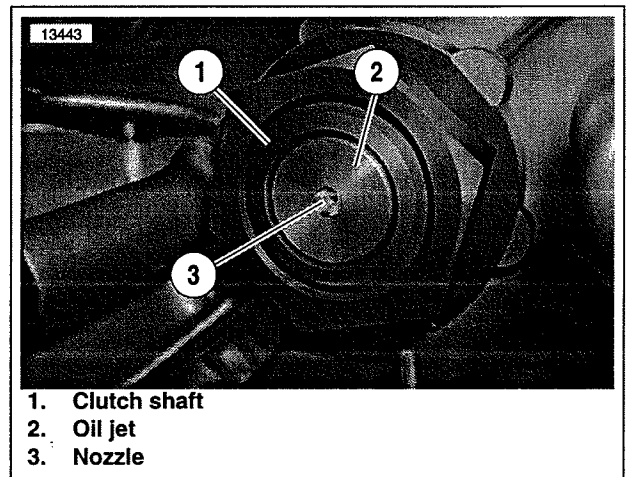
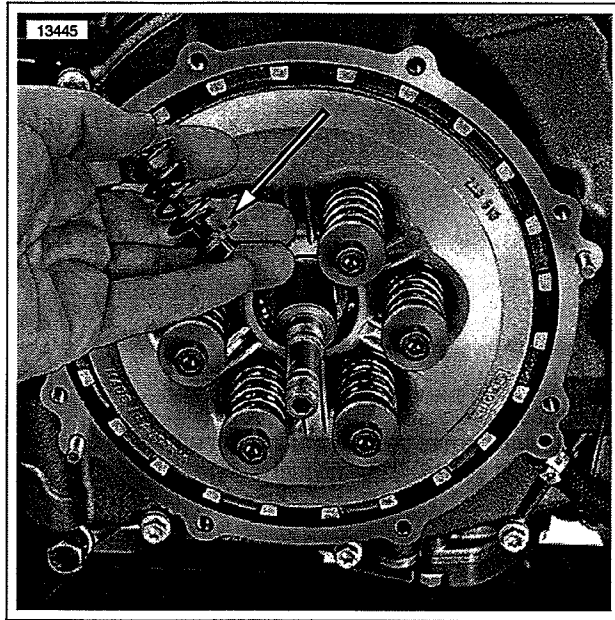

Figure 12. Installed Oil Jet
Figure 13. Stepped Washer
See Figure 12. If oil jet has already been installed as a result of efforts by Buell Racing Support, proceed to step 18.
- See Figure 12. Install oil jet (2) into clutch shaft (1) until oil jet is flush with end of clutch shaft.
- Clean oil jet with compressed air and make sure nozzle (3) is not blocked.
- See Figure 13. Fit the stepped washers and fasteners to the springs and install the pressure plate and springs.